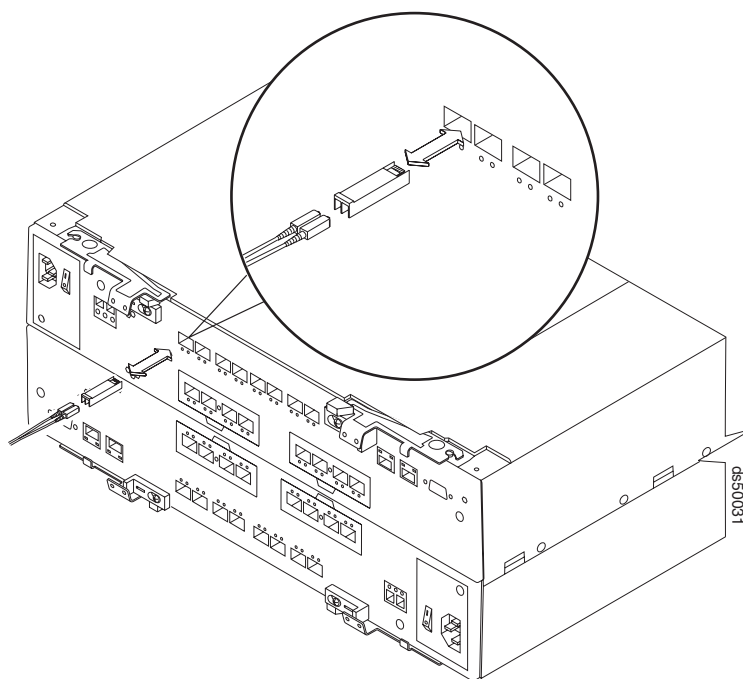

Figure 25. Installing an SFP module and LC-LC cable in a supported DS5000 storage subsystem
2. Connect an LC-LC fibre-optic cable into the SFP module, as shown in Figure 25.
**Note:** Figure 25 shows a DS5000 Storage Subsystem. The DS5000 Storage Subsystem is shown for illustrative purposes only.